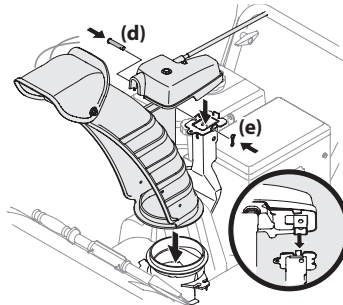

Figure 2-31
3. Place chute onto chute base and ensure chute control rod is positioned under handle panel. Secure chute control head to chute support bracket with clevis pin (d) and bow-tie cotter pin (e) removed in Step 1. See Figure 2-31.